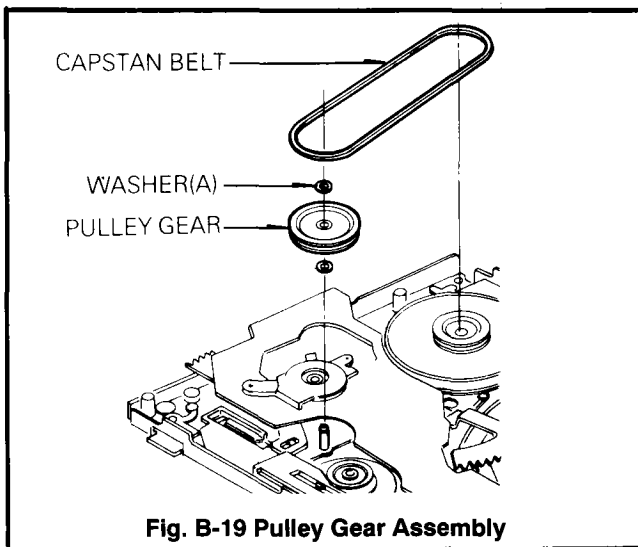

Fig. B-19 Pulley Gear Assembly
- 1) After removing the Supply Reel, and supply Main Brake Assembly, remove the washer(C) and remove the Idler Gear(A).
- 2) Remove the Washer(D) and remove the Idler Gear(B).
19. Pulley Gear Assembly (Fig. B-19)